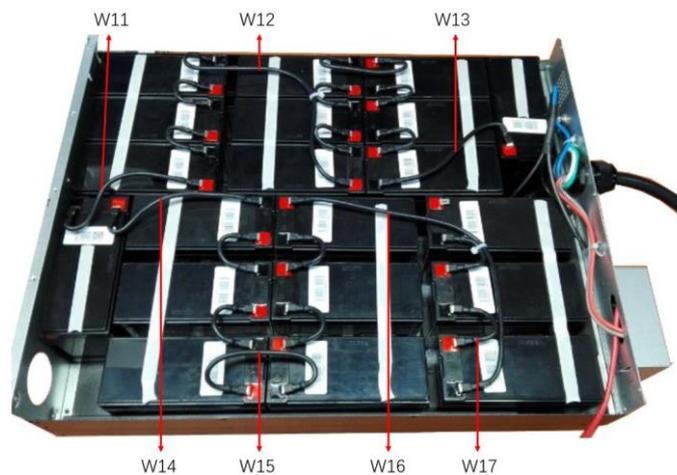

Fig 2-3
2.3). Connect the battery with W11, W12, W13, W14, W15, W16 refer to Fig 2-3: